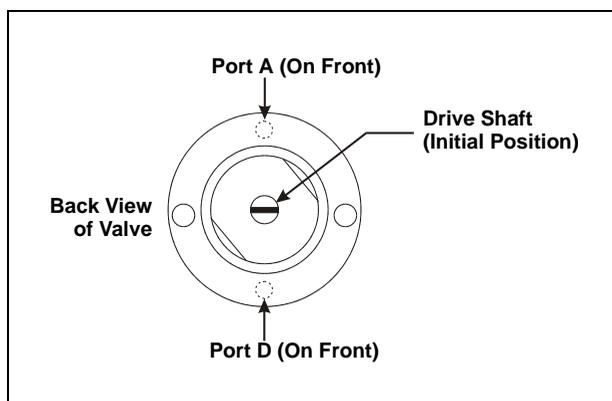

Figure 5-22. Sample Syringe Valve Drive Shaft Initial Position
4. Check the back of the new sample syringe valve (P/N 054242). The valve drive shaft should be perpendicular to valve ports A and D (see Figure 5-22).